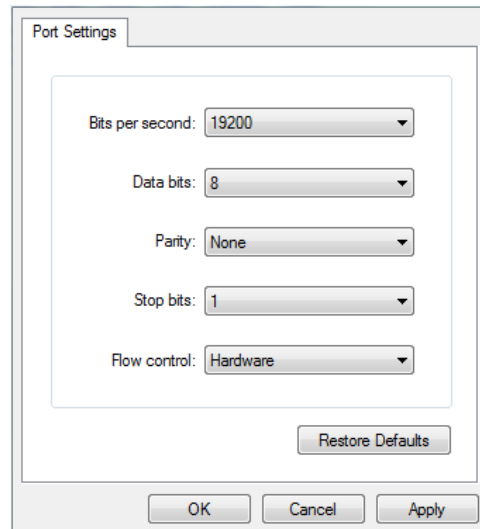

Figure 33: Port Settings
Set up the Serial communications port of your PC to match the ENIU μ USB serial port set-up, as shown in Figure 33.
- 1) Activate the serial console on your PC with parameters as shown in Figure 33.